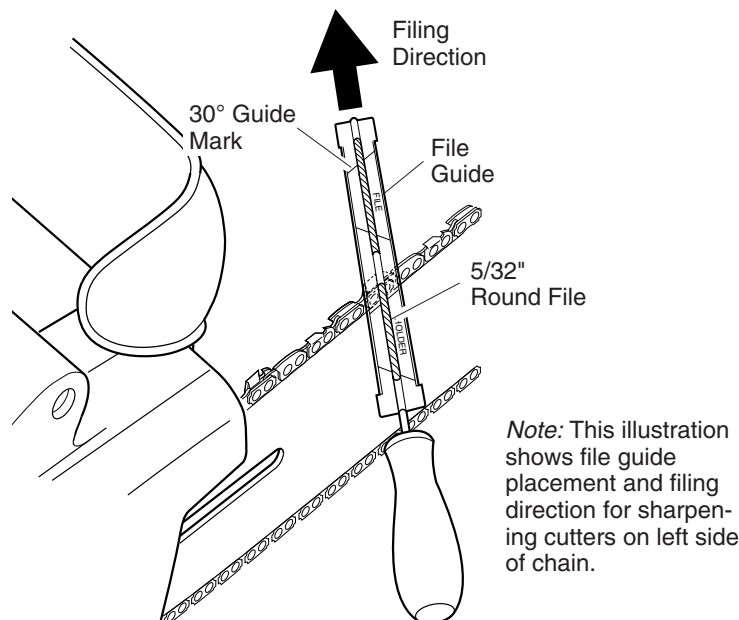

Figure 19 - File and File Guide Placement On Chain
3. Press 5/32" round file (attached to file guide) into groove between top plate and depth gauge on chain. File guide should rest on both top plate and depth gauge (see Figures 19 and 20). **Note:** File at midpoint of guide bar.
4. Hold file guide level. Make sure 30° mark on file guide is parallel to center of guide bar (see Figure 19). This will insure that you file cutters at 30° angle.
5. File from inside towards outside of cutter until sharp. Only file in this one direction (see Figure 19). **Note:** Two or three strokes with file should sharpen cutter.